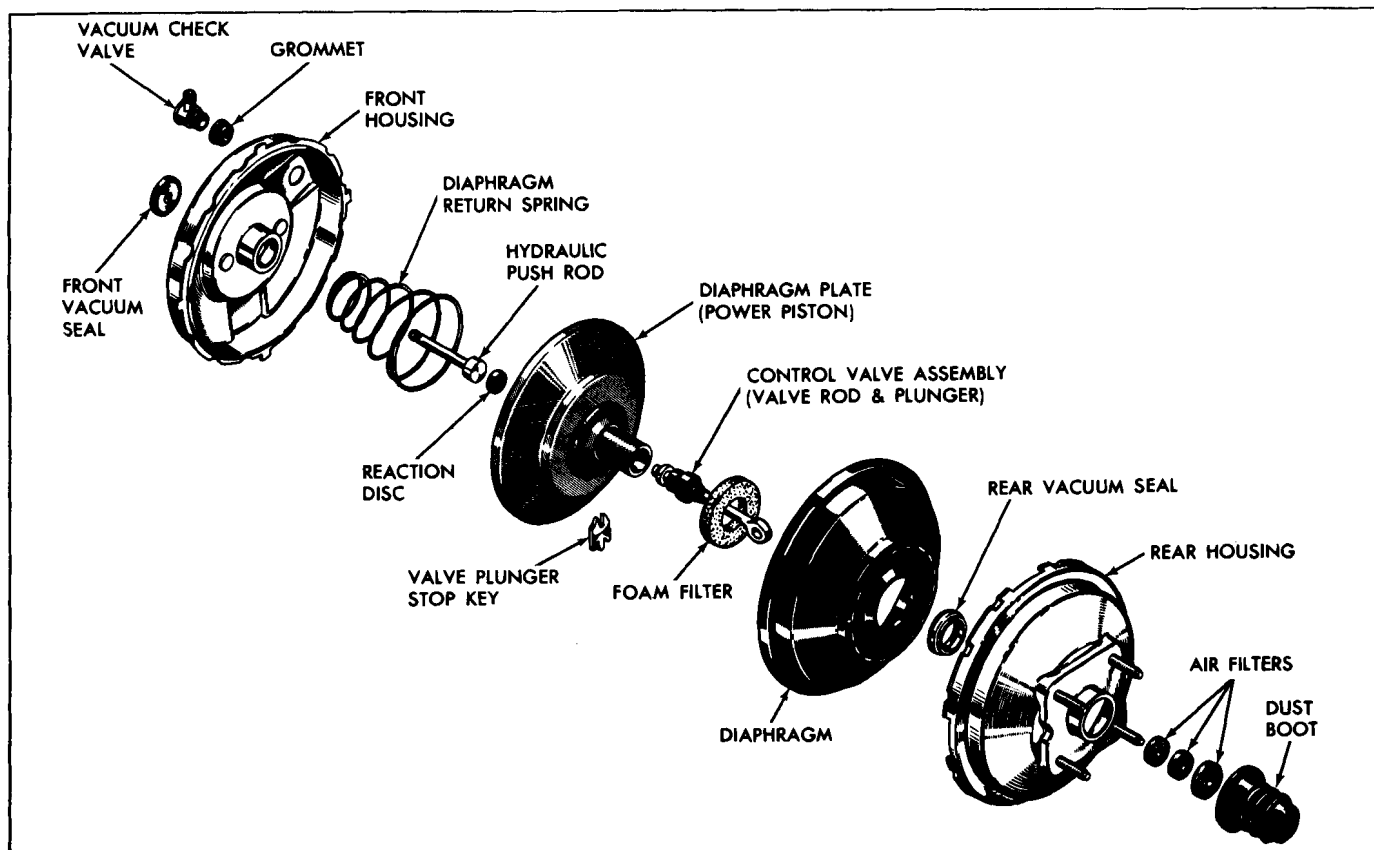

Fig. 5B-5 Power Unit - Exploded View
POWER UNIT - DISASSEMBLE (Fig. 5B-5)
NOTE: Tools BT 7004 or J 23456 (Fig. 5B-6) may be used for housing disassembly as an alternate to the following method.
5. Tilt diaphragm plate and depress valve operating rod slightly to remove valve assembly retainer (valve plunger stop key). See Fig. 5B-8.